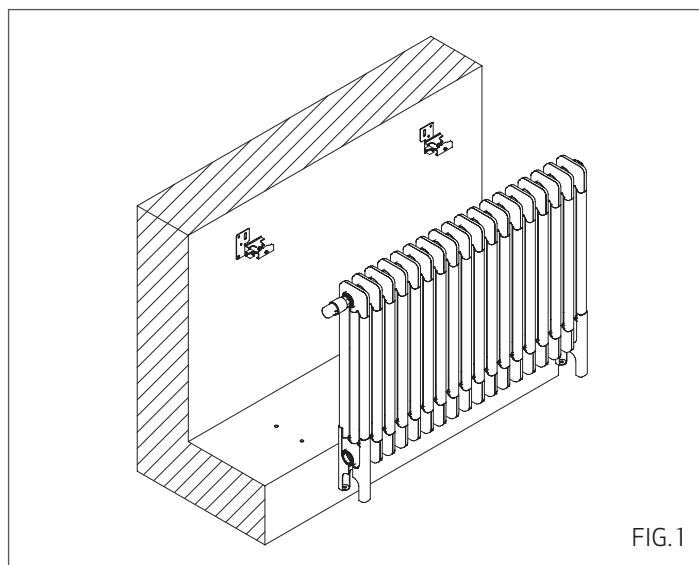

FIG. 1
- 1** Position the radiator in the intended place of installation along the wall, standing upright on its feet (FIG 1)